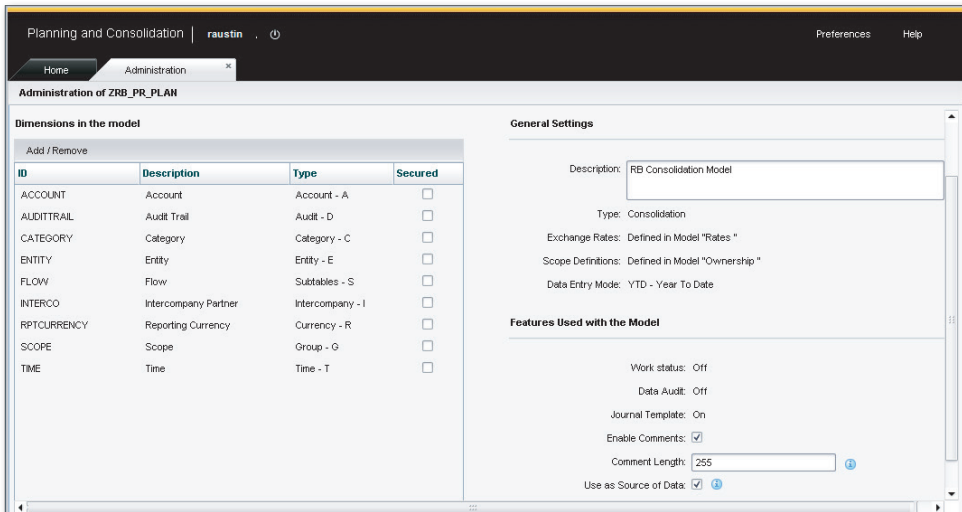

Figure 9.1 Configuring Carry Forward Balance Business Rule—Part A
1. Figure 9.1 shows the dimensions for model ZRB_CONS_MODEL. They include the Flow dimension, which is used for executing carry forward balances. The data entry mode for a consolidation model is year to date (YTD).